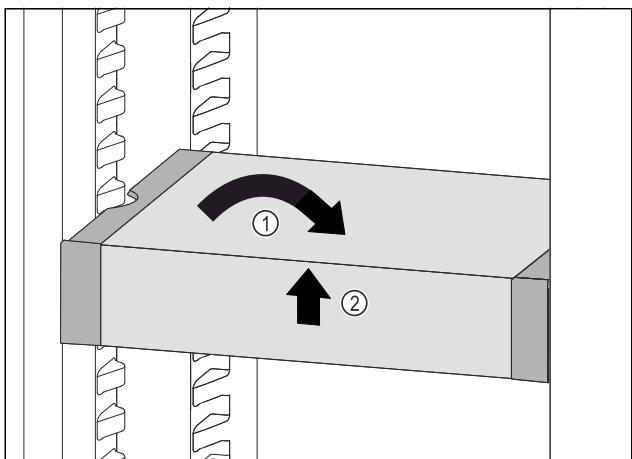

Fig. 115
- Set VarioSafe straight. Fig. 115 (1)
- Lift VarioSafe at the front. Fig. 115 (2)